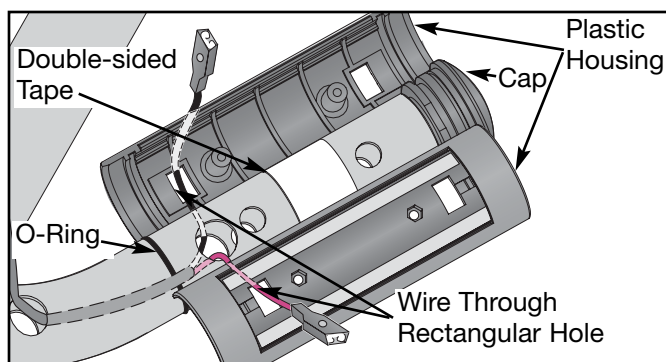

Figure 26
- D. Pull the plastic housing and cap off each handrail (the housing is secured with double-sided tape). See Figure 26.
- E. Gently push each connector out of the rectangular hole in the plastic housing. See Figure 26.
- G. Remove the old o-ring from each handrail. See Figure 26.